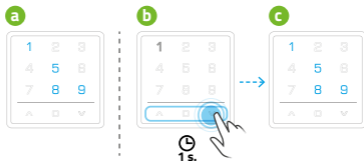

Fig. 9.2
2. Activation by touch with a finger on the control buttons. In this mode, the channels will be activated on the display that have been managed in the last session before going to stand-by. The remote control is expected to order for these channels or select more channels - Fig. 9.2.